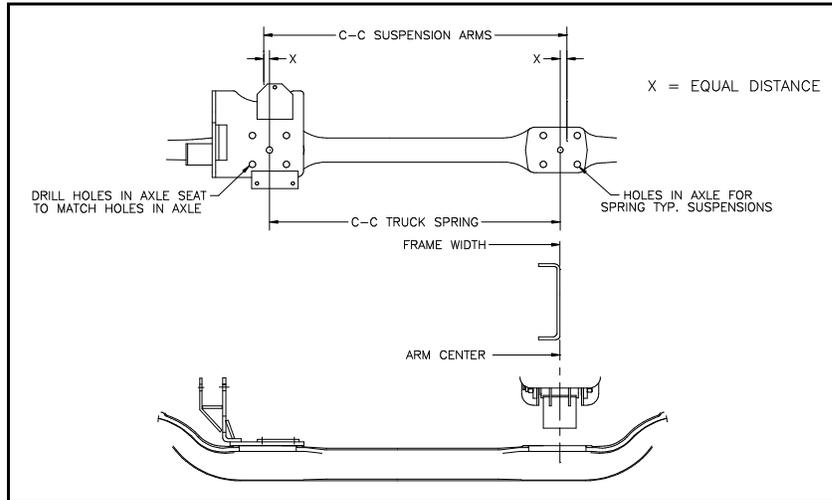

Figure 5-1
1. Auxiliary Liftable Air Ride Suspension with factory installed axles are centered at 34" frame width or specified frame width. If a customer's axle is installed, customer to locate and drill holes in suspension axle seat to match spring mounting holes in axle for proper arms centers and desired frame width. (See Figure 5-1)